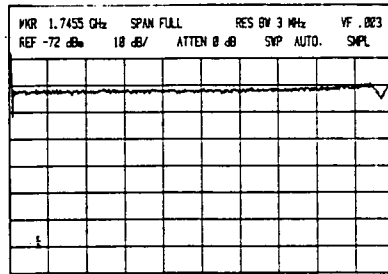

Figure 4-32.
2. Observe sweep in FULL BAND. Using TUNING control, tune marker to point of highest noise level. (A typical trace is shown in Figure 4-32.)